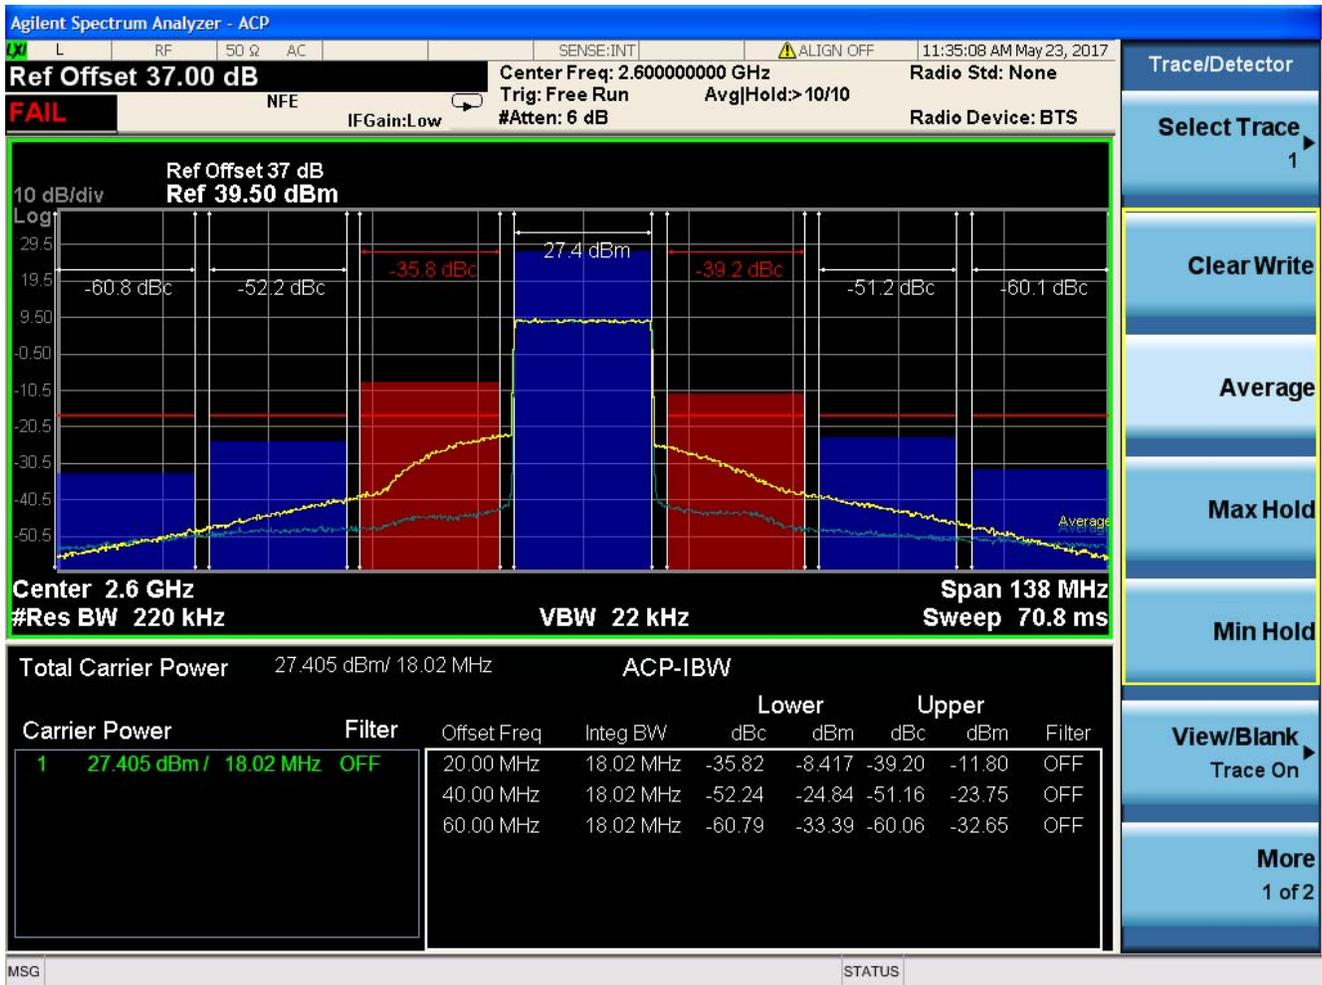

Figure 255. Power Spectral Density of PA Output Showing Before (Magenta) and After DPD (Yellow)
For example, in Figure 255, a single 20 MHz LTE carrier is transmitted and centered on the local oscillator (LO) through a gallium nitride (GaN) power amplifier (PA) and with a near ideal loopback channel. The ACLR improvement with DPD is observed as 28 dBc at  $\pm 10$  MHz.